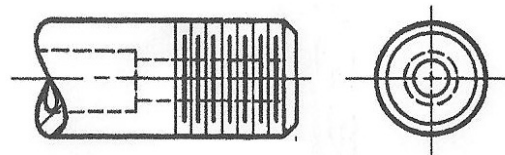

Figure 3.4.2: Schematic Thread Representation
-in Figure 3.4.2 an angle is defined using the “°” symbol: this dimension means that the 3 “ears” are each 120 degrees apart.